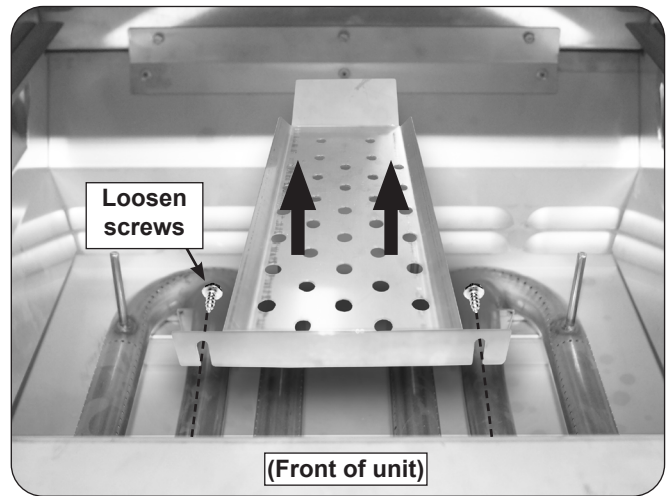

Fig. 41-1 Heat distribution grid removal
3. Loosen the two $\frac{5}{16}$ " hex screws and remove the heat distribution grid by lifting up, then outward, freeing the cutouts from the two loosened screws (see Fig. 41-1).